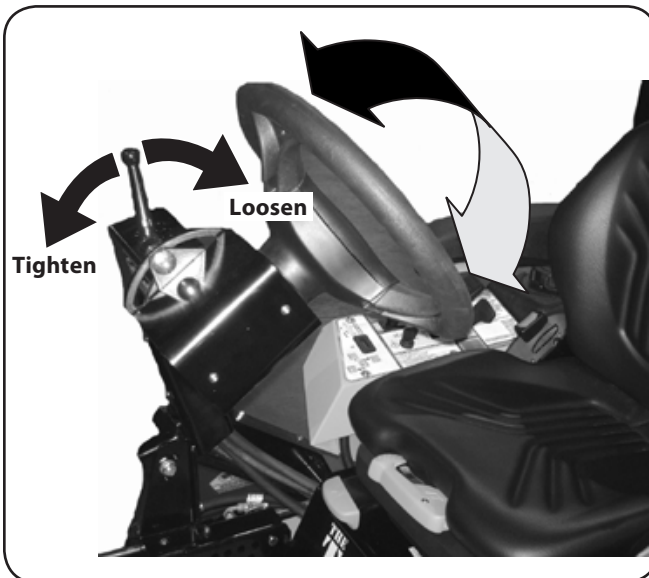

Figure 3-8
1. Pull back on the adjustment lock lever to loosen the steering wheel tilt. See Fig. 3-8.